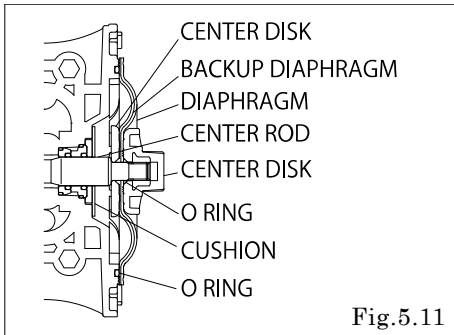

Fig.5.11
- PT type (PTFE Diaphragm model): Put the backup diaphragm before PTFE diaphragm, and O ring after PTFE diaphragm. (cf. Fig.5.11)